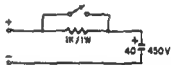

**Fig C-2** Use a neon-type voltage tester to check for leaky coupling capacitors
**Fig. C-2.** This test will detect leakages of several megohms. Though not as sensitive a test, on voltages lower than the ionizing voltage of the lamp a dc voltmeter can be used. Be careful to set it on a scale high enough to avoid pinning the needle on the initial charging "kick."